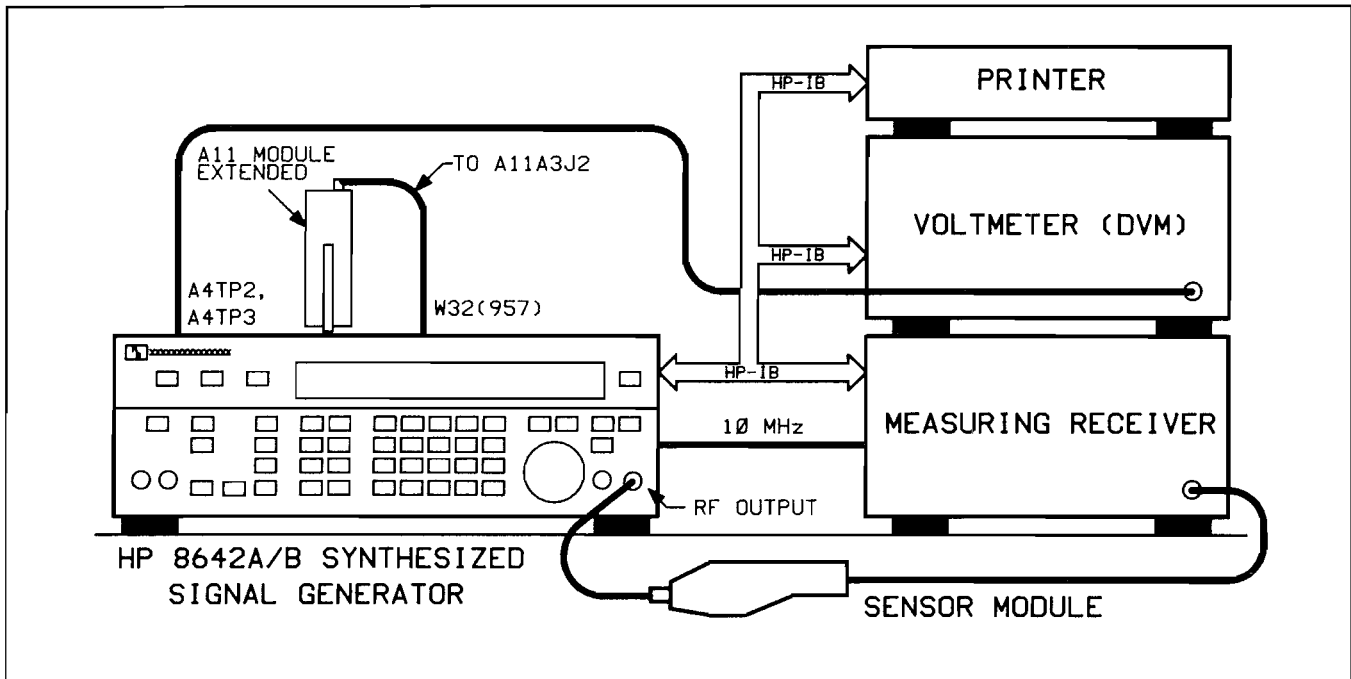

Figure 8N-12. Set-up 2
11. When **“WAITING FOR SET-UP 2 .V25”** appears: (Refer to Figure 8N-12.)